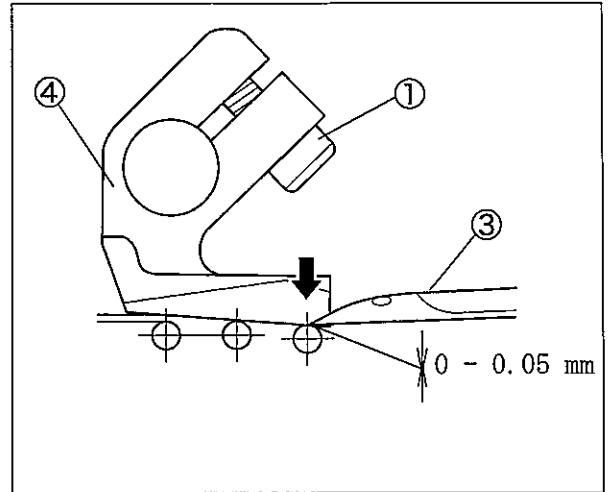

Fig. 59
- (1) When the looper ③ moves from the right to the left, and the looper ③ tip meets the right needle, the needle guard(rear) ④ pushes the right needle to make the clearance between them to 0 - 0.05 mm. (Fig. 59)